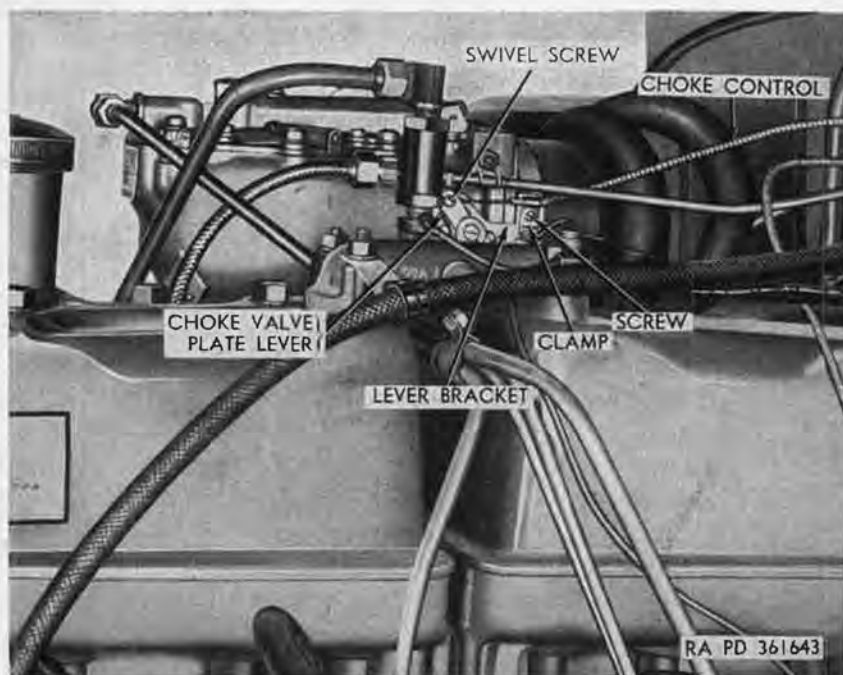

Figure 158. Top left rear view of carburetor installed on engine.
- (9) Loosen choke-lever-swivel screw (fig. 158) securing choke control wire to choke valve plate lever at left side of carburetor. Loosen choke-lever-bracket-clamp screw, and remove choke control from lever and bracket.
- (2) *Adjustment.*
- (a) Loosen swivel screw (fig. 158) securing choke control wire to choke lever.
- (c) Move upper end of choke valve plate lever (fig. 158) forward as far as it will go and tighten swivel screw.
- (3) *Removal.*
- (a) Loosen swivel screw (fig. 158) securing choke control wire to choke valve plate lever.
- (b) Loosen choke-lever-bracket-clamp screw (fig. 158) and remove choke control from choke valve plate lever and lever bracket.
- (c) Pull free end of choke control (fig. 158) (from front side of cab cowl) until choke control wire reaches choke valve plate lever. Position control under lever-bracket clamp, and insert end of control wire in hole in choke valve plate lever swivel.
- (d) With choke control (GG, fig. 65) in against instrument panel as far as it will go, move upper end of choke valve plate lever (fig. 158) forward as far as it will go, and tighten swivel screw and lever-bracket-clamp screw.
- (1) *General.* The throttle control linkage is in proper adjustment when movement of accelerator pedal through its full range of travel causes the throttle valve plate lever to move through its full range of travel.